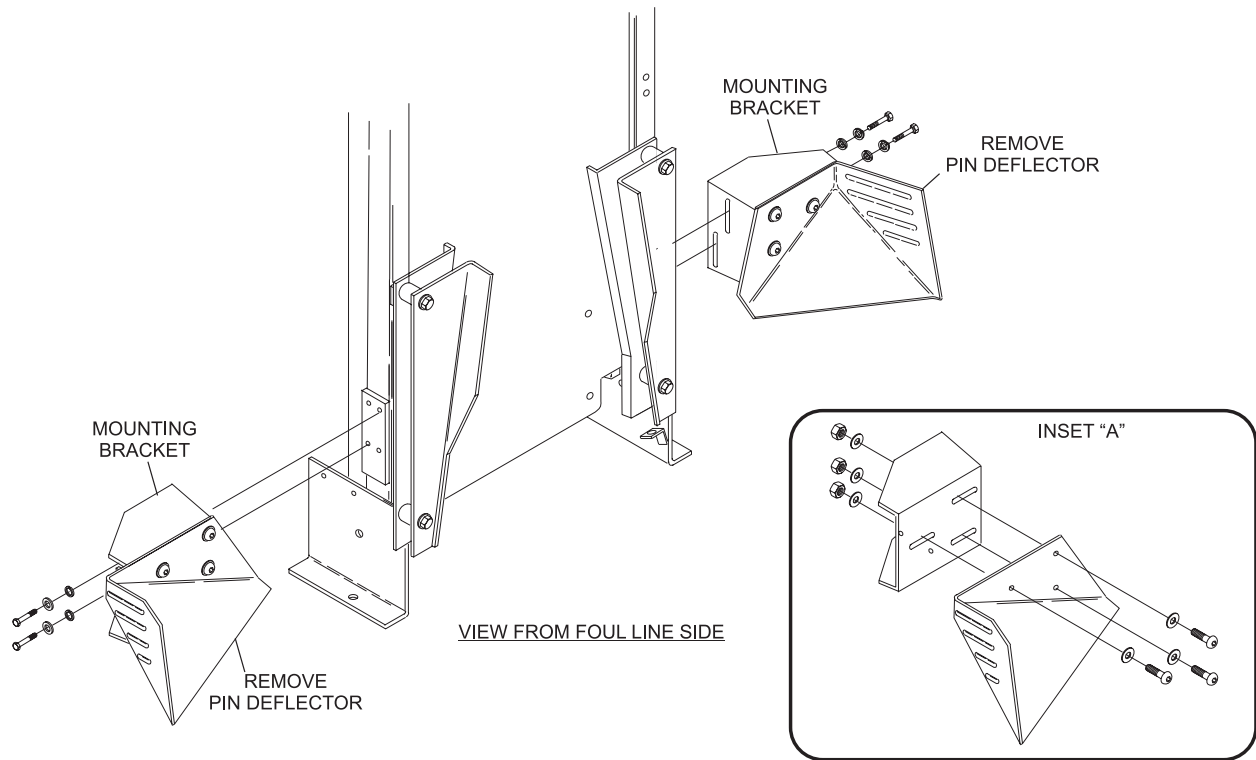

Figure 1
3. Remove pin deflectors from elevator. Refer to *Figure 1*.
4. After the mounting brackets and the pin feed deflectors are removed from the elevator, remove the 3 Allen head screws that secure the pin feed deflectors to the mounting brackets. Refer to *Figure 1 - Inset "A"*.